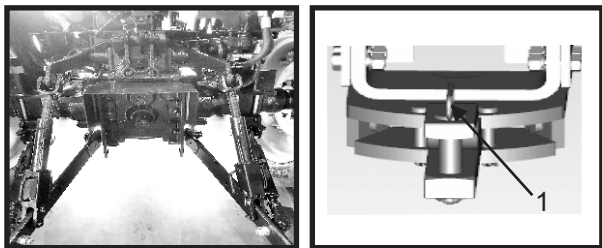

Figure 8.4 Swinging drawbar locating points
To vary the height of the drawbar / implement hitch point, invert the drawbar and/or reposition the clevis straps shown in Figure 8.4.
The drawbar retaining pin may be inserted in either of the holes (1) or (2), Figure 8.4, to vary the drawbar/ implement hitch point relative to the P.T.O. shaft. Always use the close-coupled position (hole 2) when towing equipment exerting high static downward forces, such as two wheeled trailers etc.